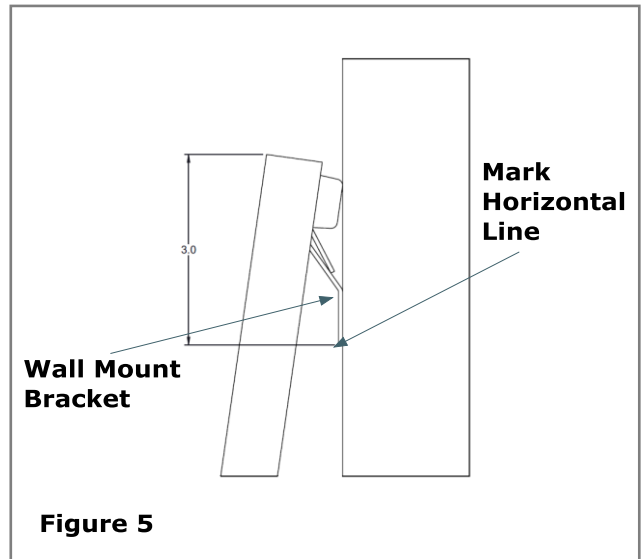

Figure 5
4. With the mirror in the correct position at the floor and tilted to the wall at the top. Mark a horizontal line 3 inches down from the top of the mirror to mark the location of the wall mount bracket. Slide the mirror to the side and fasten wall mount bracket at marked location using fastening screws with a minimal pull out rating of 75 lbs. per fastener (obtain locally). **(See Figure 5)**